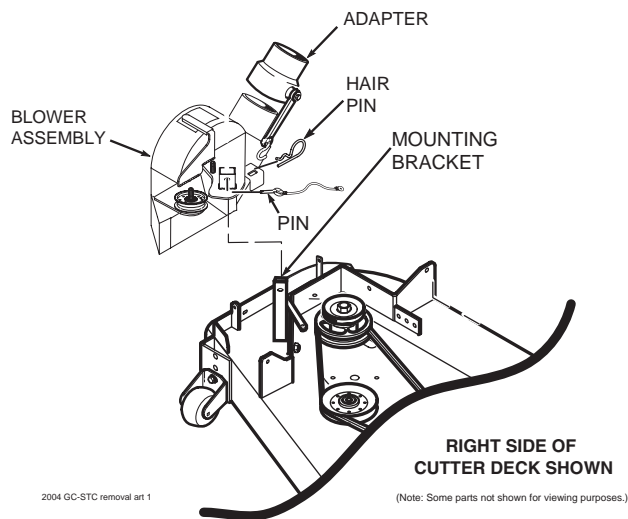

**Figure 7**
16. Using the weight support bar as a guide, identify the four corresponding mounting holes, and the existing hardware that will need to be removed in order to secure the weight support bar to the front of the machine as shown. See Figure 7.
17. Install one 7/16-14 x 1-3/4" hex head bolt into each of the four mounting holes in the weight support bar, and through the matching holes in the caster support weldment. Secure this assembly to the front of the machine using the 7/16- .5" x 1-1/4" x .083" flatwashers, and the 7/16-14 elastic stop nuts. Torque hardware to 59 ft. lbs. See Figure 7.